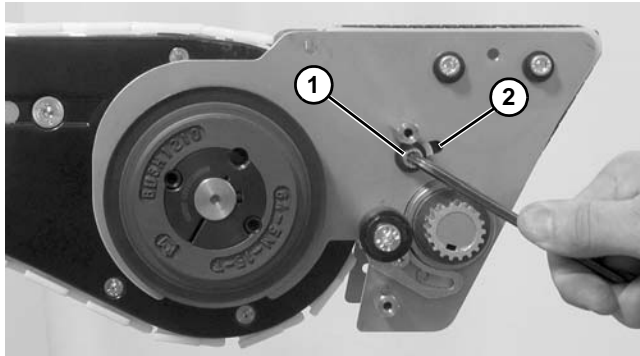

Figure 126
- Loosen idler socket head screw (Figure 126, item 1) on both sides of the conveyor.
- Slide idler assembly within slot (Figure 126, item 2) to remove tension on belt.